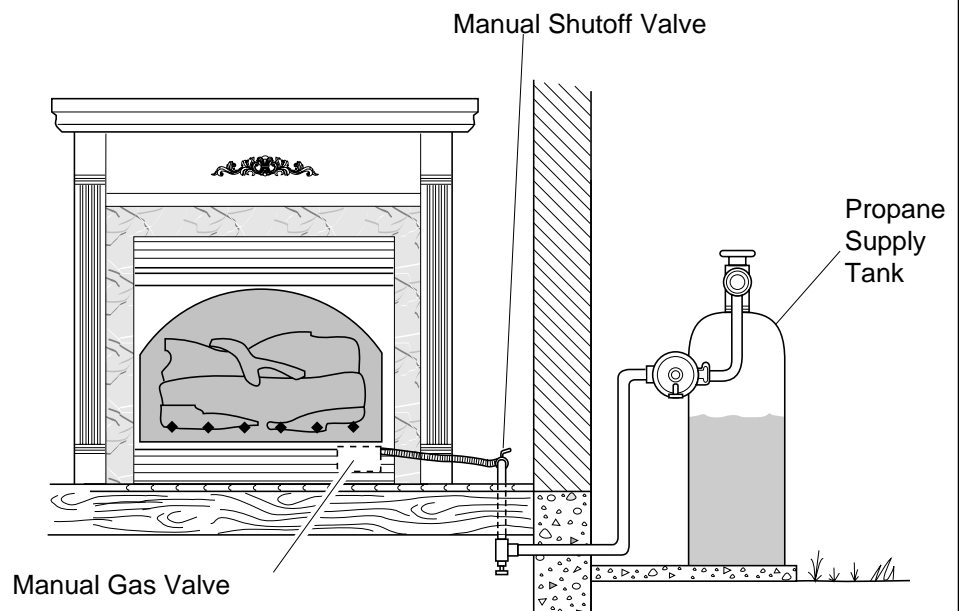

Figure 21 - Checking Gas Joints
3. Check all joints from propane supply tank to manual shutoff valve (see Figure 21). Apply mixture of liquid soap and water to gas joints. Bubbles forming show a leak.
4. Check all joints from manual shutoff valve to thermostat gas valve (see Figure 21). Apply mixture of liquid soap and water to gas joints. Bubbles forming show a leak.